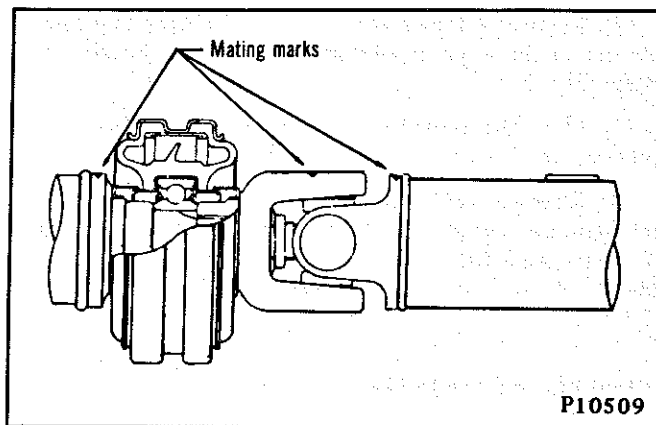
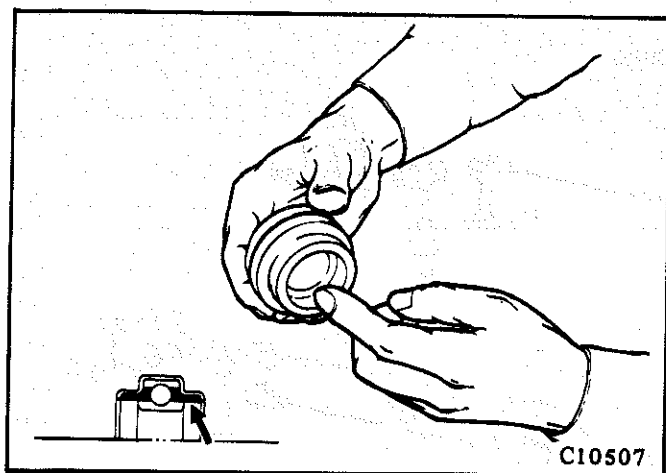

Fig. 4—Mating marks of yoke and shaft
Fig. 6—Greasing point
- (1) Mark all mating components prior to dismantling the propeller shaft (refer Fig. 4).
- (1) Repack the bearing with multi-purpose grease (refer Fig. 6).
- (2) Press the centre bearing onto the front shaft. Install the centre bearing bracket, ensuring that the rubber bearing support groove is correctly fitted to the bearing.
- (3) Align the mating marks of the yoke and splines on the front shaft and fit the yoke (refer Fig. 4). Tension the yoke retaining nut to the specified torque.
- (4) Align the mating marks of the yoke and rear shaft and assemble the universal joint.